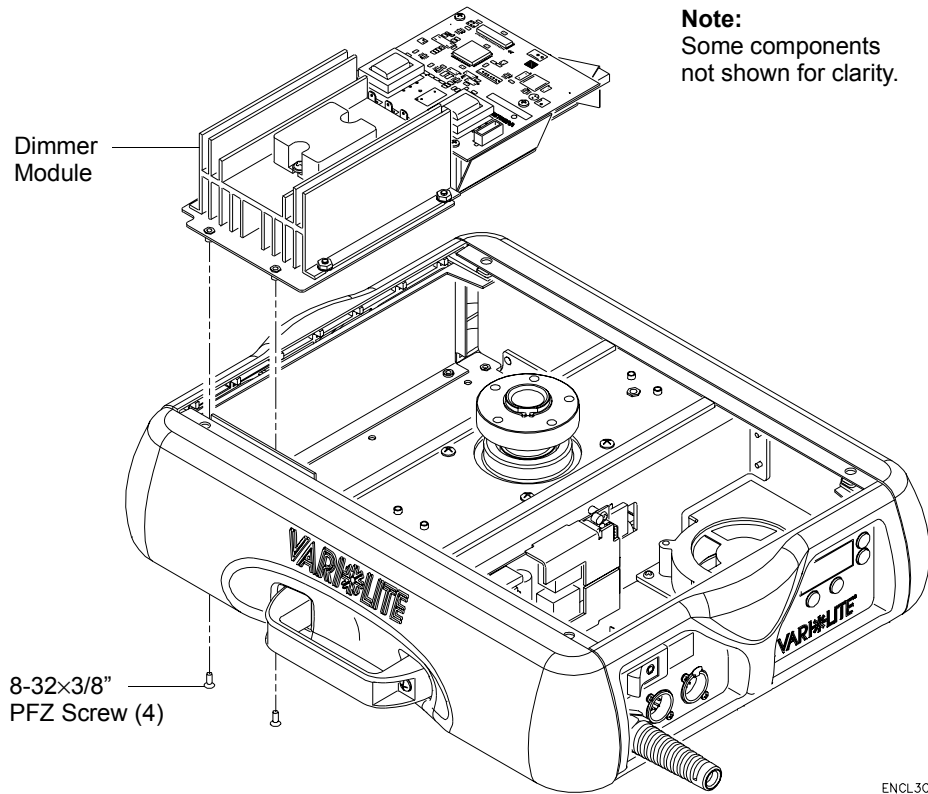

Figure 2-19: Dimmer Module Replacement
- Step 5. At bottom of enclosure, remove four 8-32×3/8" PFZ screws which secure dimmer module to enclosure. **Figure 2-19.**